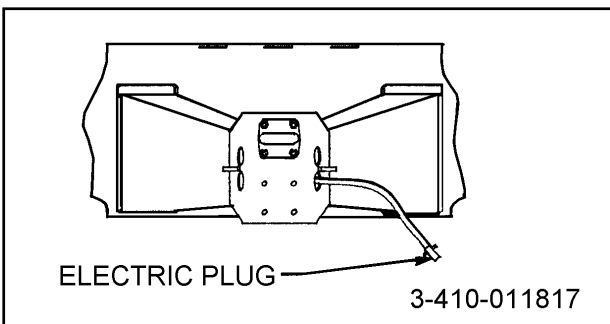

Figure 3-2 Service Hookups(Front View)-Electric Brakes
- a. Connect electrical receptacle to the truck. (See Figures 3-2 and 3-3).